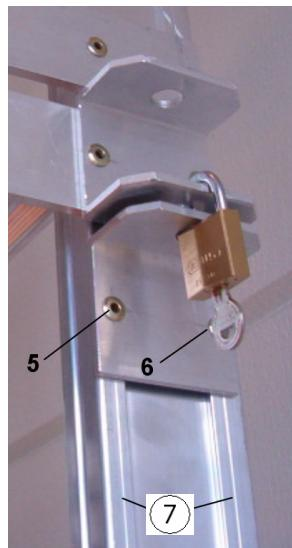

Figure 4
- Close the hoop lock to enable the height of the angle section to be determined (figure 4).
- Drill holes in grooves (pos.7) of the ladder upright (pos. 5 and 6).
- Pop rivets pos. 5 and 6 through the angle section and the ladder upright.